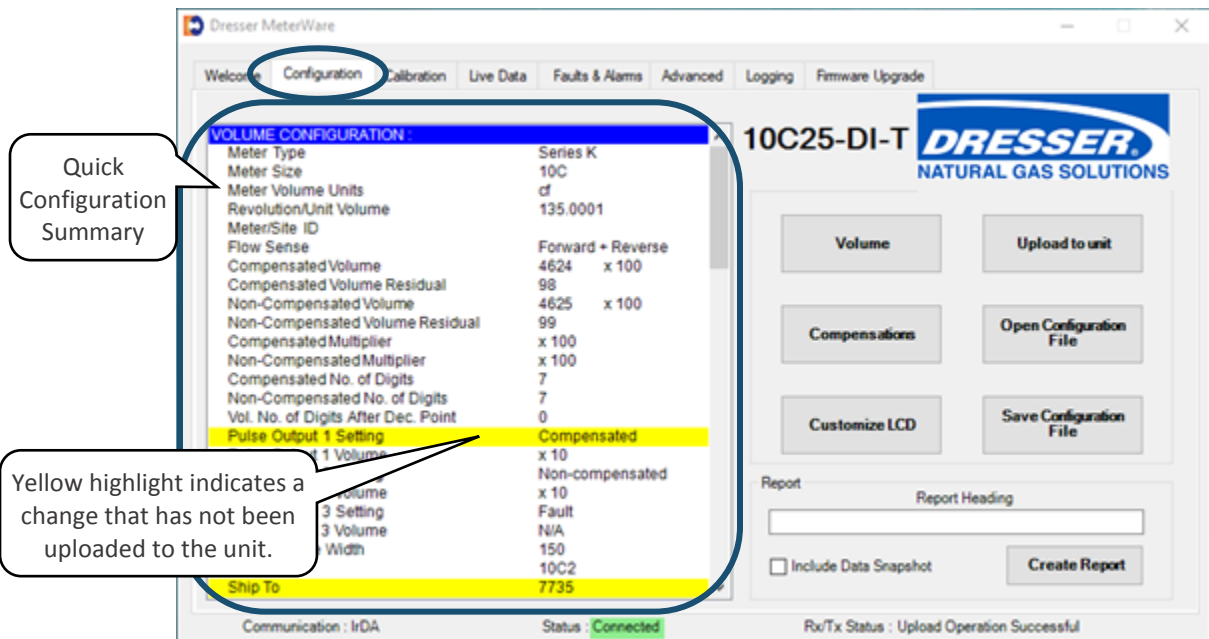

Figure 20: Configuration screen
To access the **Configuration** screen, click the **Configuration** tab, as shown in Figure 20.
The Quick Configuration Summary is an area on the **Configuration** screen (refer to Figure 20). This area displays the parameters and their current values. (Scroll through the list to see additional parameters.) Parameter values are set on the individual screens. A single parameter can be configured by double-clicking the parameter in this list to display the screen to change the value.
Parameters highlighted in yellow have changes that have not been uploaded to the unit (refer to Figure 20). Click **Upload to unit** to update the parameter values on the unit and clear the highlighting.
1. On the **Configuration** screen (Figure 20), click **Volume**.
1. On the **Configuration** screen (Figure 20), click **Compensations**.